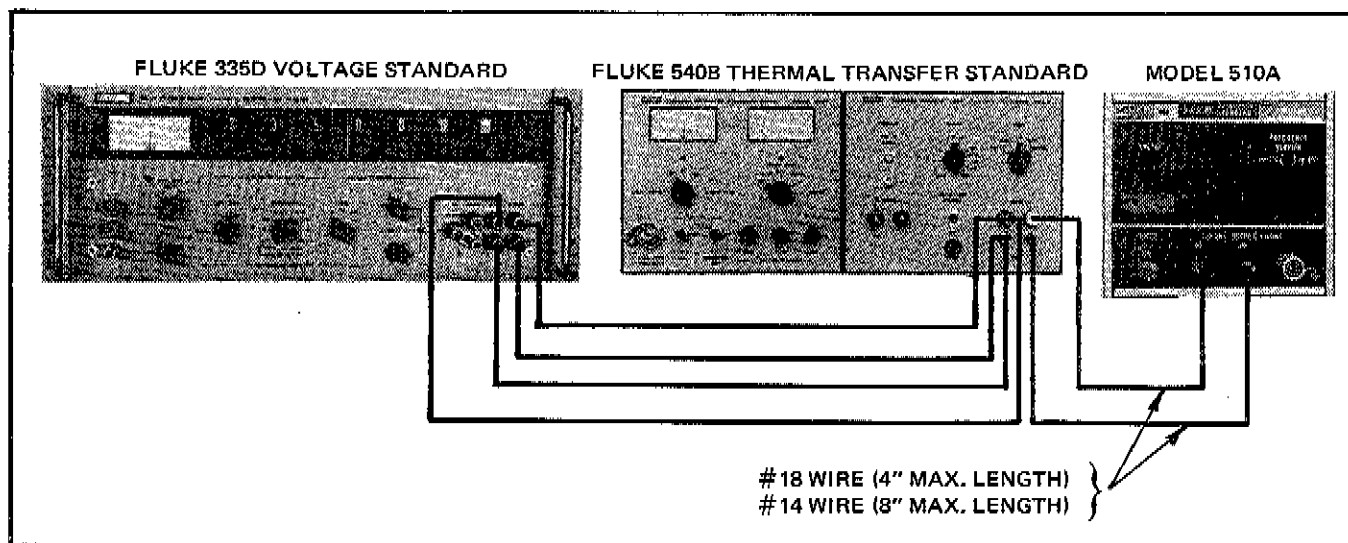

Figure 4-5. THERMAL TRANSFER EQUIPMENT CONNECTIONS
a. Make the equipment connections shown in Figure 4-5.